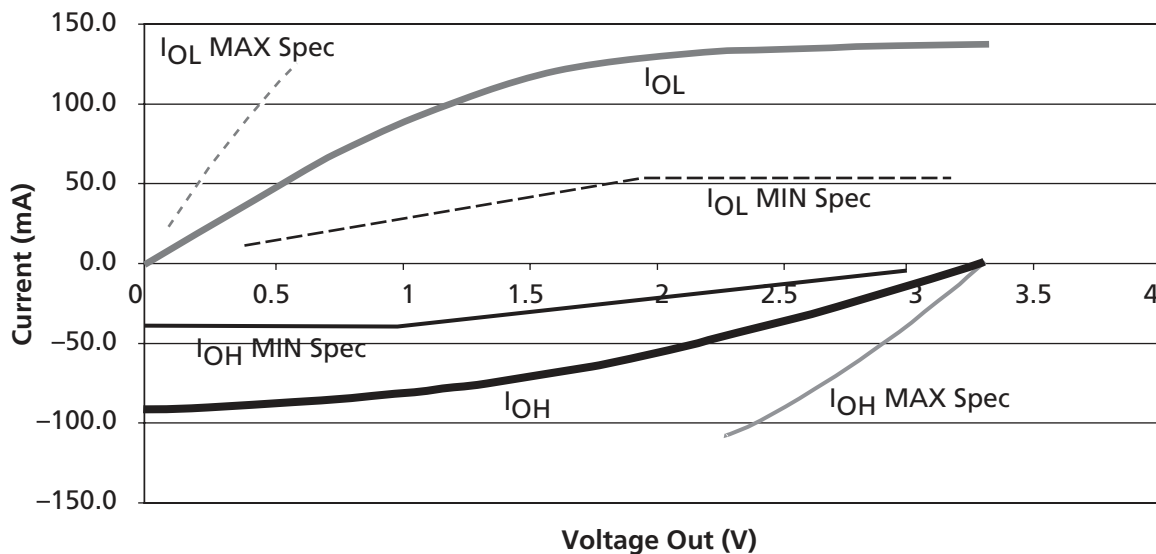

Figure 2-2 • 3.3 V PCI V/I Curve for SX-A Family
1. Refer to the V/I curves in Figure 2-2 on page 2-7. Switching current characteristics for REQ# and GNT# are permitted to be one half of that specified here; i.e., half size output drivers may be used on these signals. This specification does not apply to CLK and RST#, which are system outputs. "Switching Current High" specifications are not relevant to SERR#, INTA#, INTB#, INTD#, and INTD#, which are open drain outputs.
2. Maximum current requirements must be met as drivers pull beyond the last step voltage. Equations defining these maximums (C and D) are provided with the respective diagrams in Figure 2-2 on page 2-7. The equation defined maximum should be met by design. In order to facilitate component testing, a maximum current test point is defined for each side of the output driver.
Figure 2-2 shows the 3.3 V PCI V/I curve and the minimum and maximum PCI drive characteristics of the SX-A family.